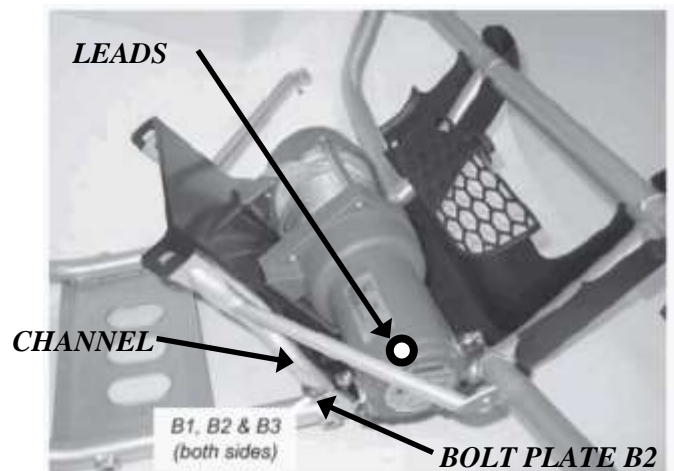

Figure 7 Place Mounting Plate, Fairlead, and Winch onto front Bumper
7. Place the mounting plate into position on the front bumper. Install (2) U-bolts (B1), (2) U-bolt plates (B2), and (4) lock nuts (B3) that are supplied with this kit, "Figure 7". ***See Exploded View on page 1 for bolt plate attachment. Do not tighten U-bolts at this time.***
9. Mount your winch to the mounting bracket using the hardware supplied with your winch, "Figure 7"